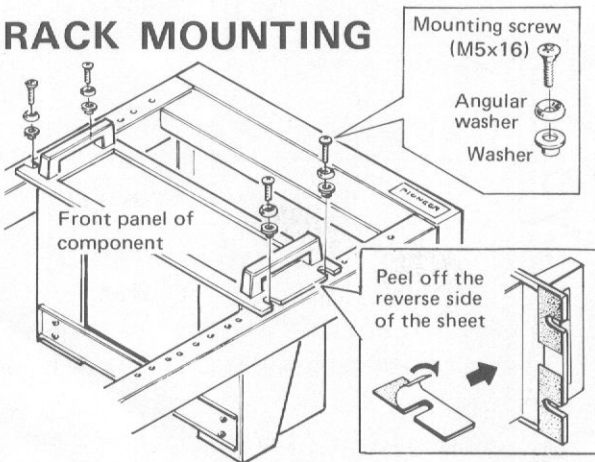

Fig. 5
- 1 As shown in Fig. 5, lay the rack (must meet EIA standards like the JA-R1A or the JA-R2S) down with the mounting face pointing upward.
As shown in the Fig. 5, attach these sheets to the four mounting holes on the front panel.